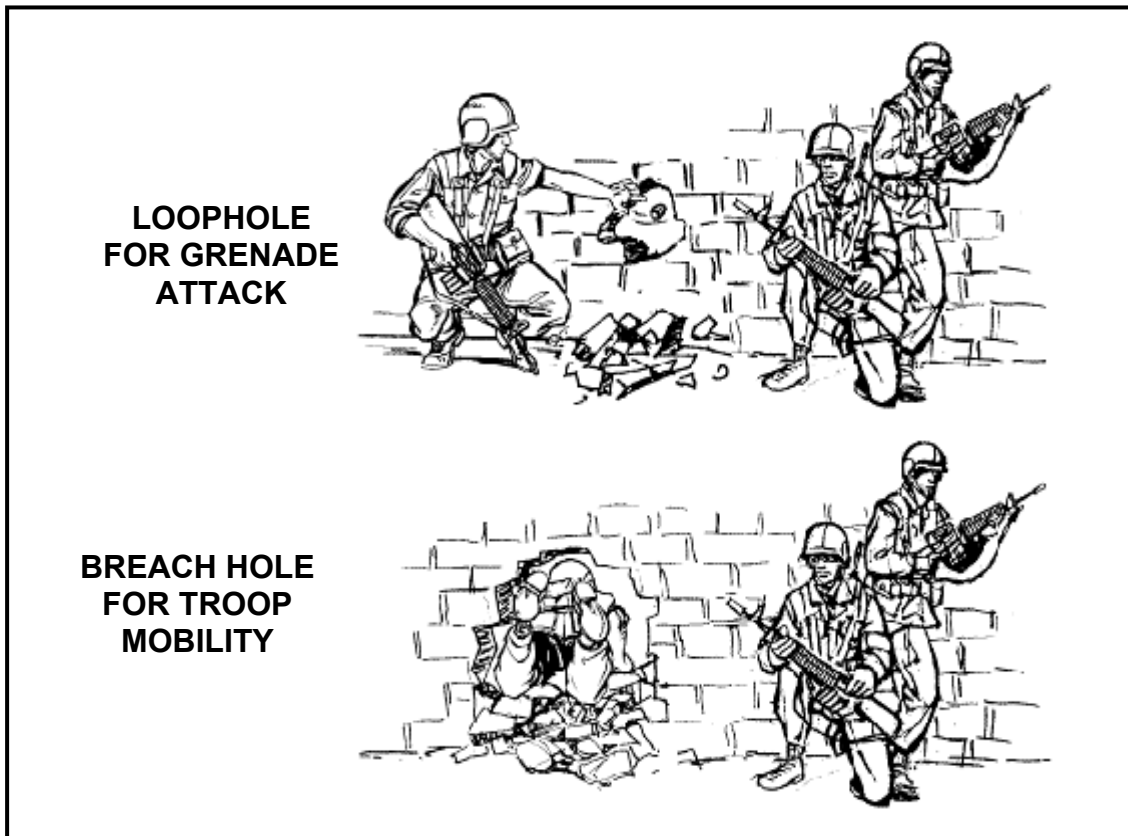

Figure 7-6. Tactical use of holes in masonry walls, after ballistic breaching.
d. **Wall Breaching**. Wall breaching is a common combat task in urban areas for which light recoilless weapons can be used. Breaching operations improve mobility by providing access to building interiors without using existing doors or windows. Breaching techniques can also be used to create loopholes for weapons positions or to allow hand grenades to be thrown into defended structures. Breach holes for troop mobility should be about 50 inches high by 30 inches wide. Loopholes should be about 8 inches in diameter (Figure 7-6, page 7-16). None of the light recoilless weapons organic